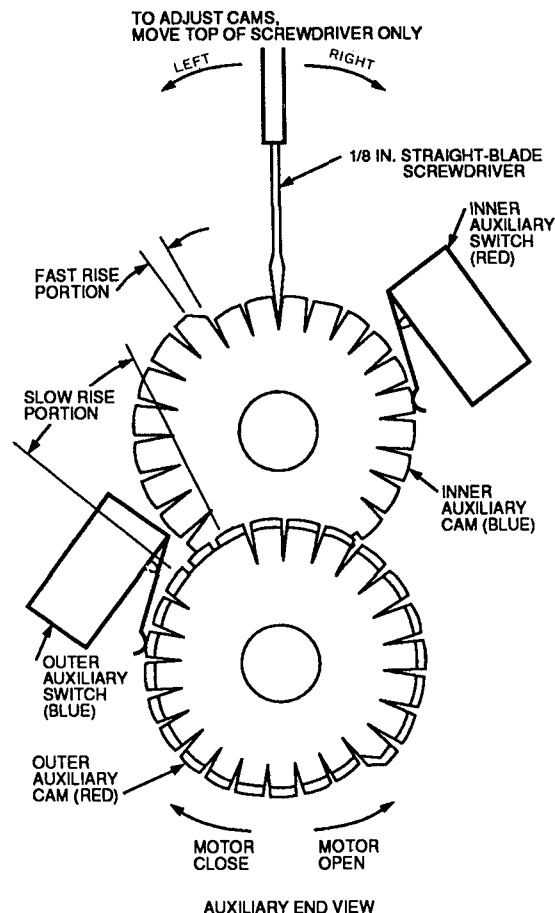

**Fig. 29 — Auxiliary Switch Adjustment**
4. Adjust auxiliary cam by inserting a 1/8-in. straight blade screwdriver into slot on cam and moving TOP of screwdriver to the right or left. See Fig. 29.